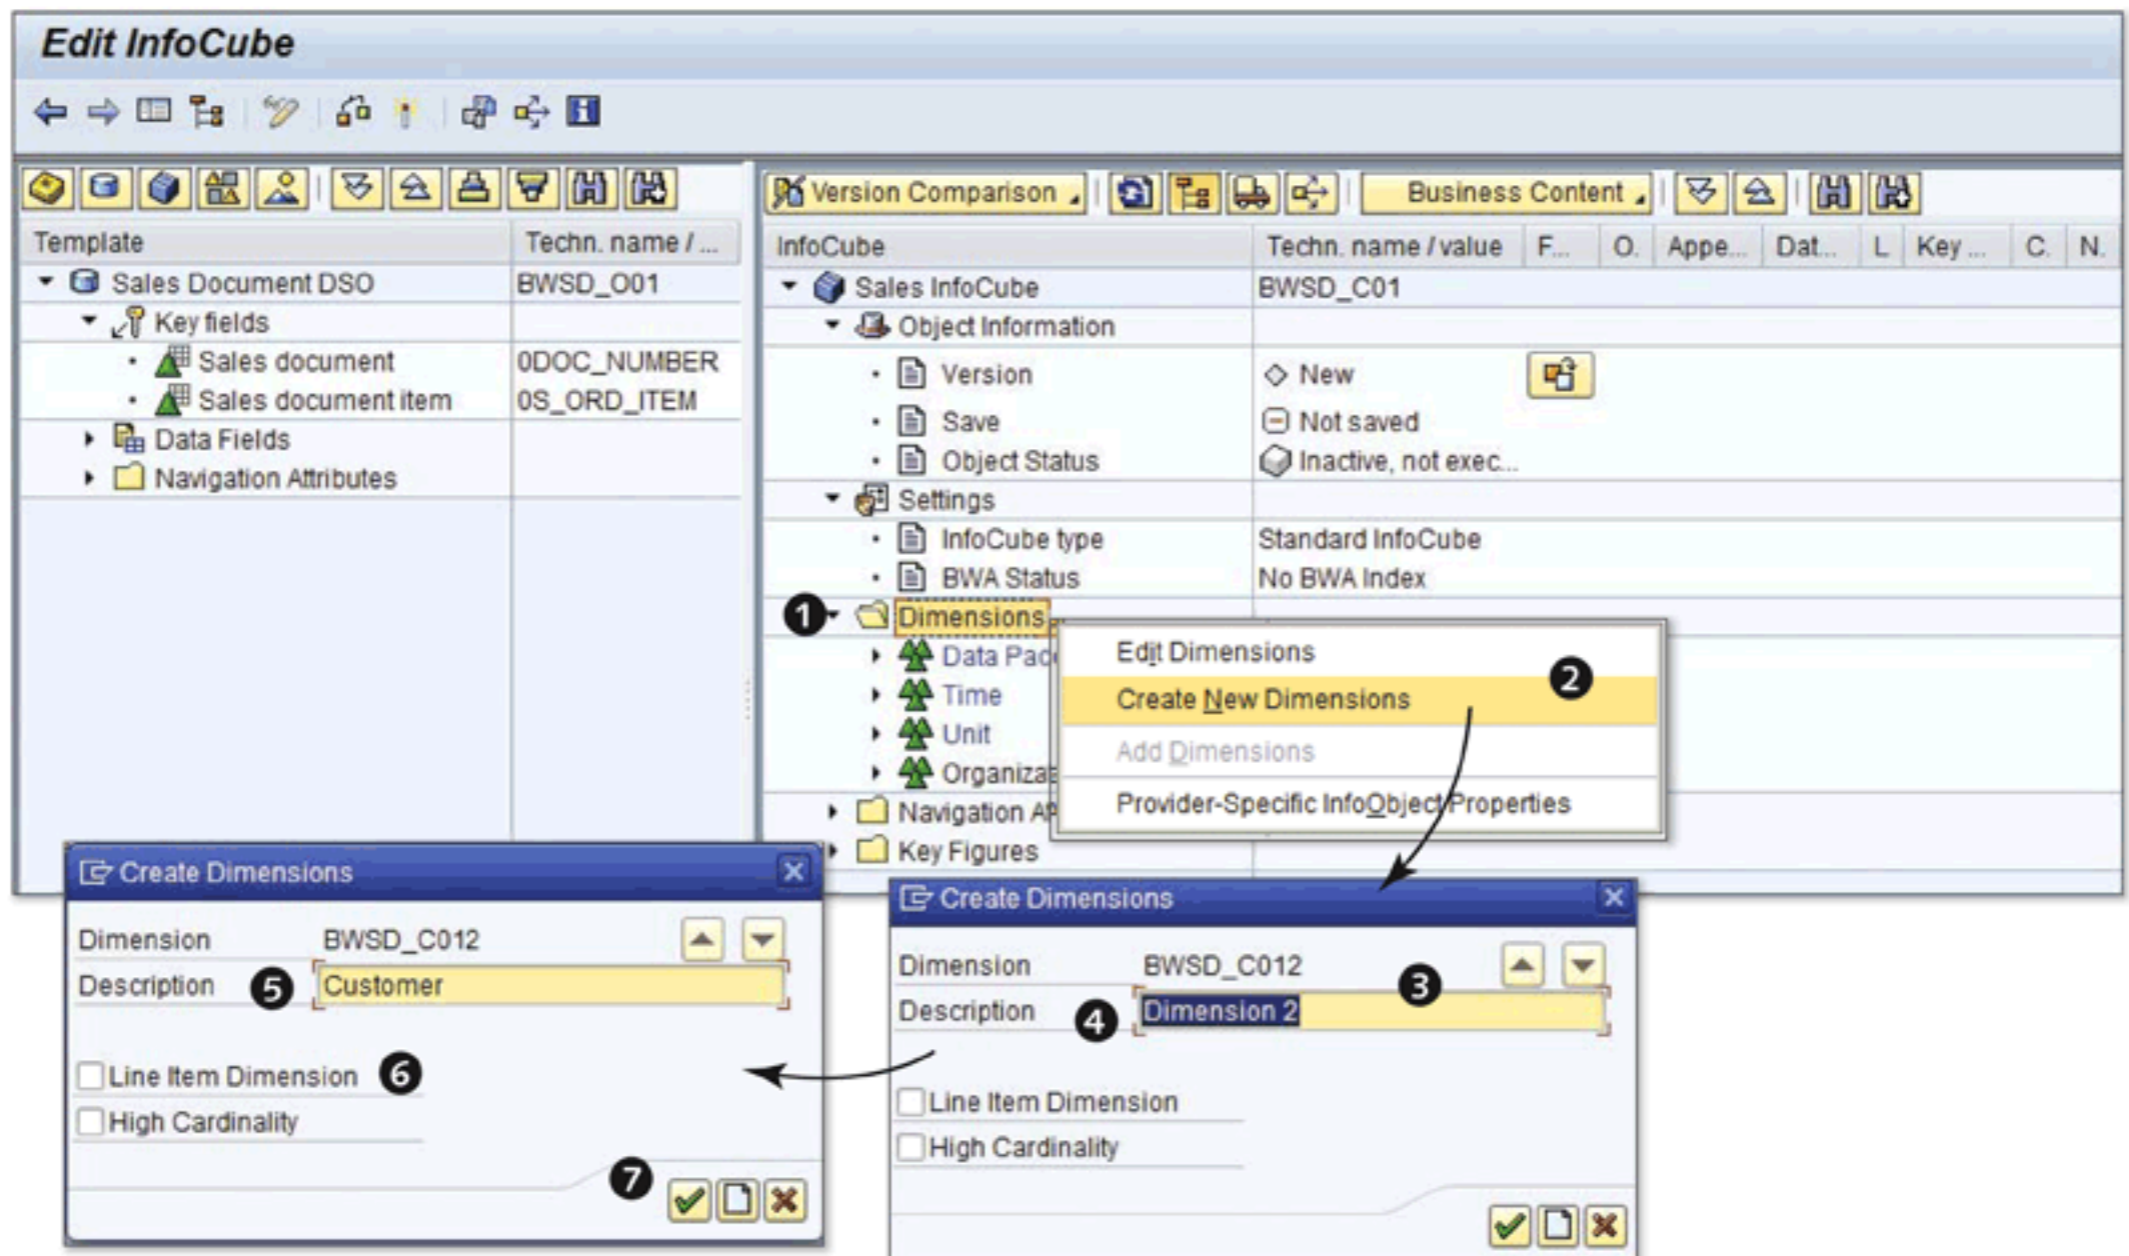

Figure 5.14 Adding New Dimensions
DIMENSIONS folder (❶ of Figure 5.14), and select the CREATE NEW DIMENSIONS option from the context menu (❷).
This action displays the CREATE DIMENSIONS screen, which lists a system-generated technical name for the new dimension (❸). By default, the description is listed as DIMENSION 2, as shown in ❹ of Figure 5.14.